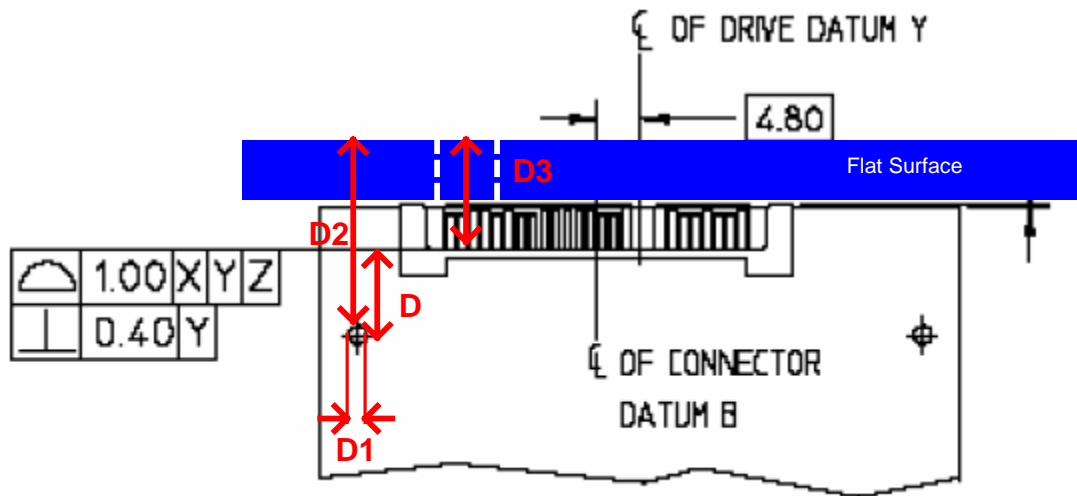

Figure 20
1. Using the inside measurement jaw of the calipers measure the width of the mounting hole as shown in Figure 20. Record the value of  $D1$ .
2. Using the outside measurement jaw of the calipers measure the distance from the edge of the mounting hole to the face of the flat surface as shown in Figure 20. Record the value of  $D2$ .
3. Using the depth measurement of the calipers measure the distance from the face of the flat surface, through a hole in the flat surface, to the base of the device tongue plug as shown in Figure 20. Record this value as  $D3$ .